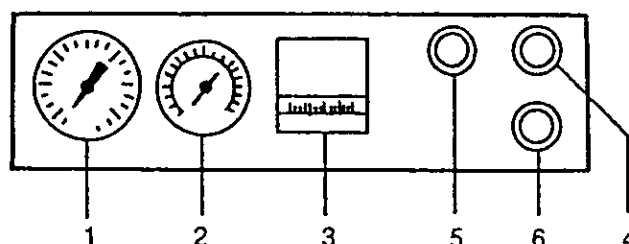

Figure 4
- Push momentarily start and then stop button (4 and 5, Figure 4) and check for proper direction of rotation.
- Overload relay of the motor. After having eliminated the trouble, push first the contact pin at the overload relay, then the reset button (6, Figure 4). Now the compressor is ready for operation.
- After switching on main disconnect switch, start unit by pushing start button (4, Figure 4).